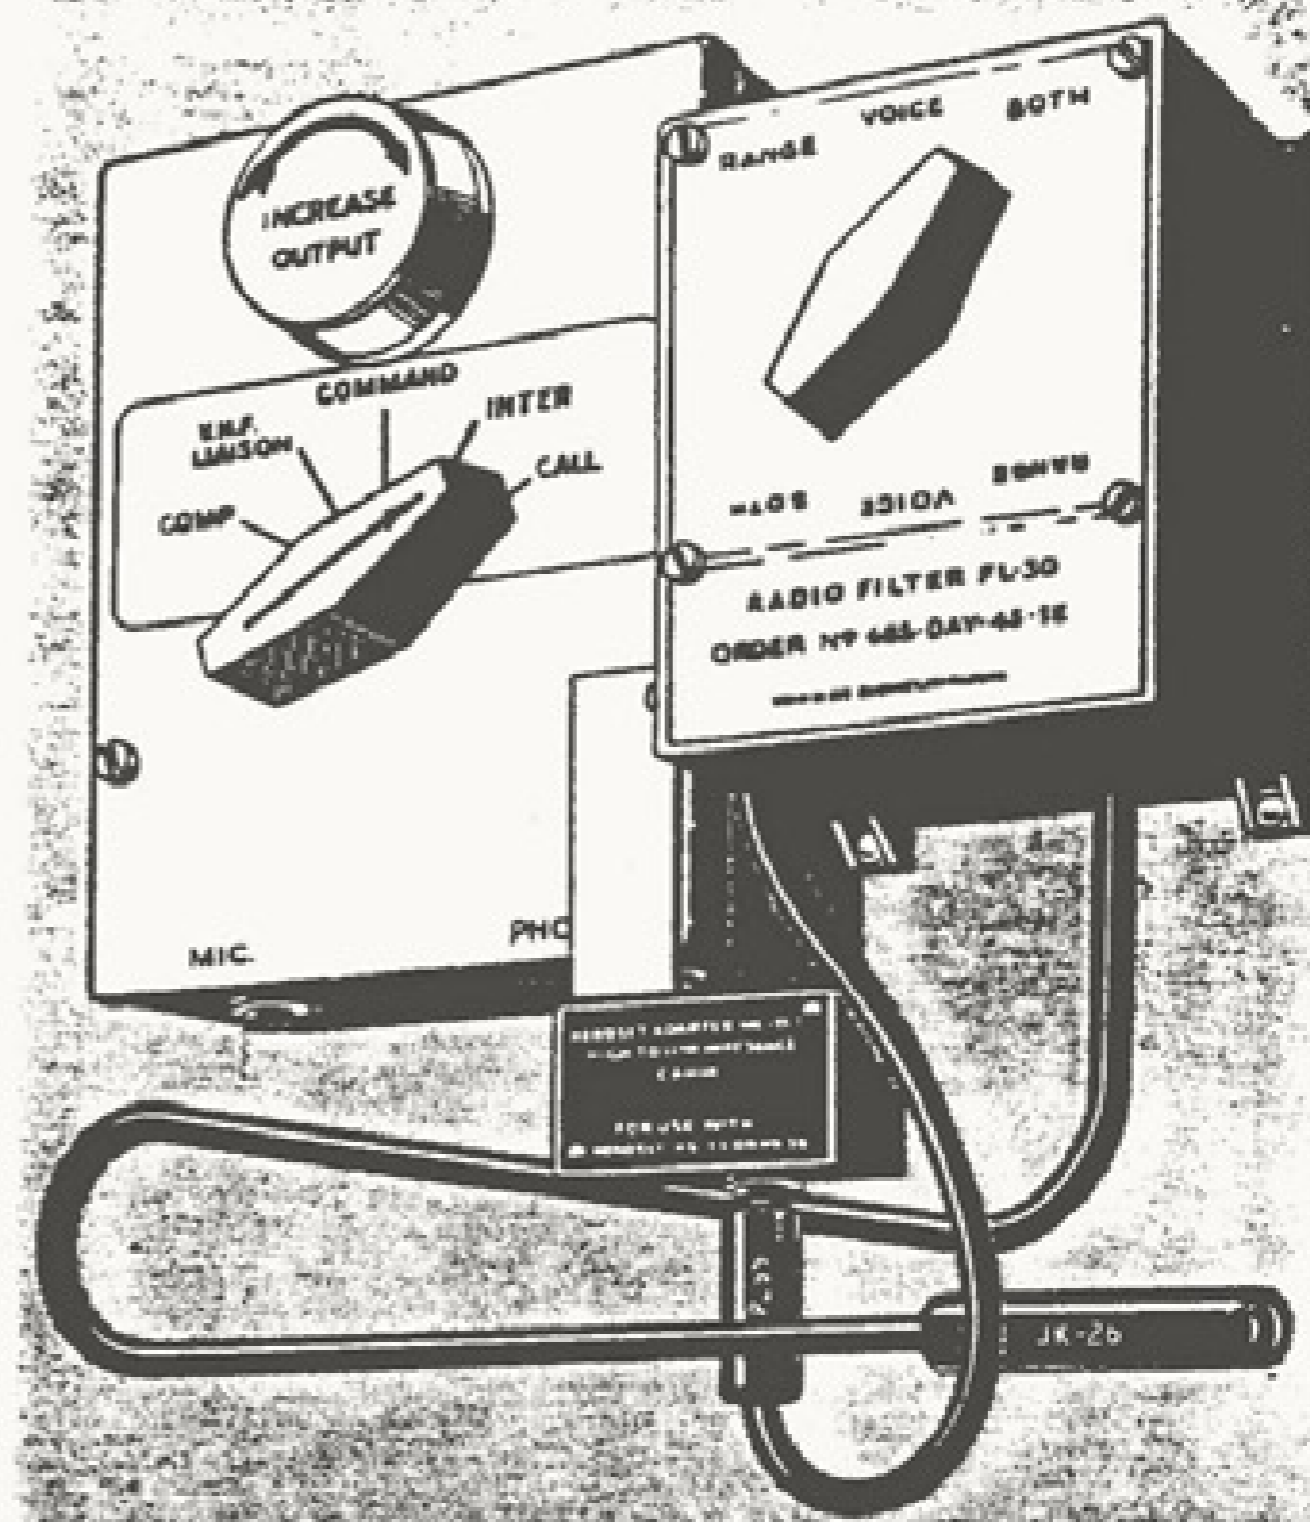

Figure 3. Jack Box, Filter, and Adapter
a. GENERAL.- The radio equipment installed in this airplane consists of the following sets: AN/AIC-2 interphone, SCR-274N command set, AN/ARN-7 radio compass, RC-193 marker beacon set, T-30 and T-17 microphones, and HS-33 headsets. Ten BC-1366 jack boxes are installed in the airplane, one at each crew station in the forward cabin and four in the aft cabin. Headset and microphone plugs are attached to each main gear strut for use of ground crew observers during ground operations. The pilot and copilot each have a filter switch box plugged into the headset circuit between an adapter and the jack box. (See figure 3.)